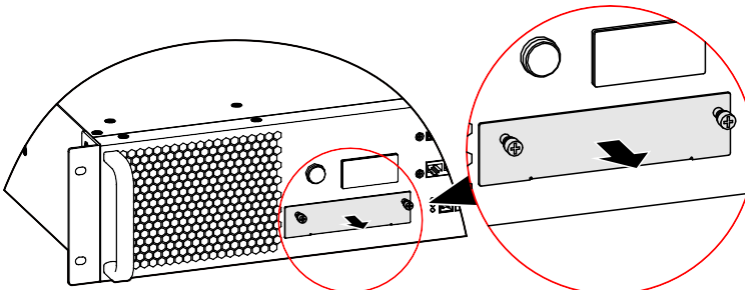

Figure3-23 Dismantle the expansion card cover plate
Step 1 Loosen the screws of the expansion card plate on the bypass unit, and then take down the expansion card cover plate, as shown in Figure3-23.